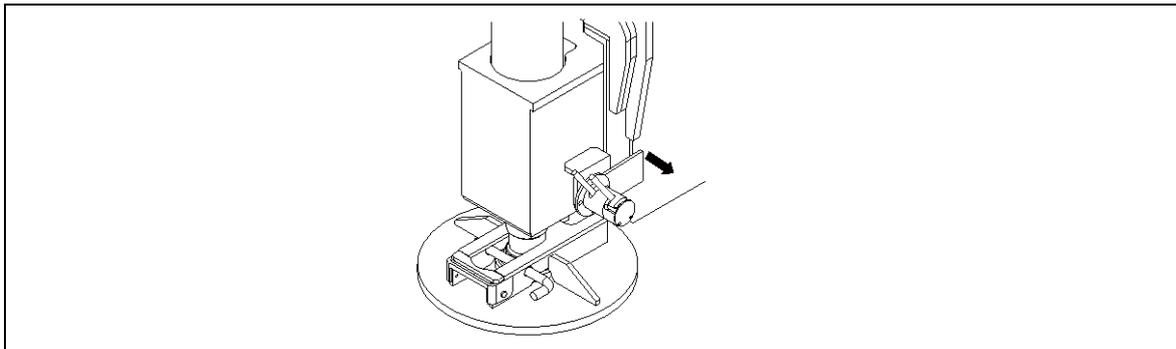

Figure 4-56 Outrigger beam removal
- a) Remove the pin of the outrigger beam. Refer to Figure 4-56.